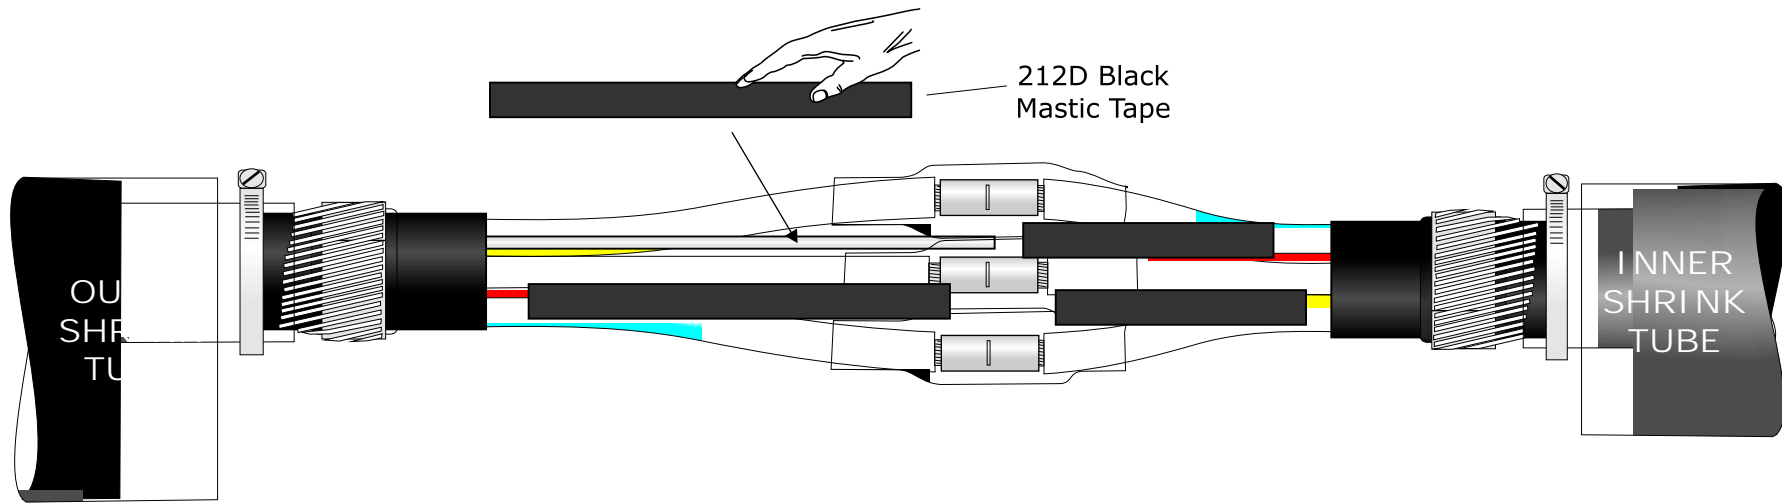

Fig 5
6. Take the 212D black mastic strips, remove the backing papers and insert the strips between the cores as shown above in Fig 5. Apply enough tape to fill up the spaces. This tape will melt and flow and fill up the voids once the heat is applied to the inner and outer shrink tubes.